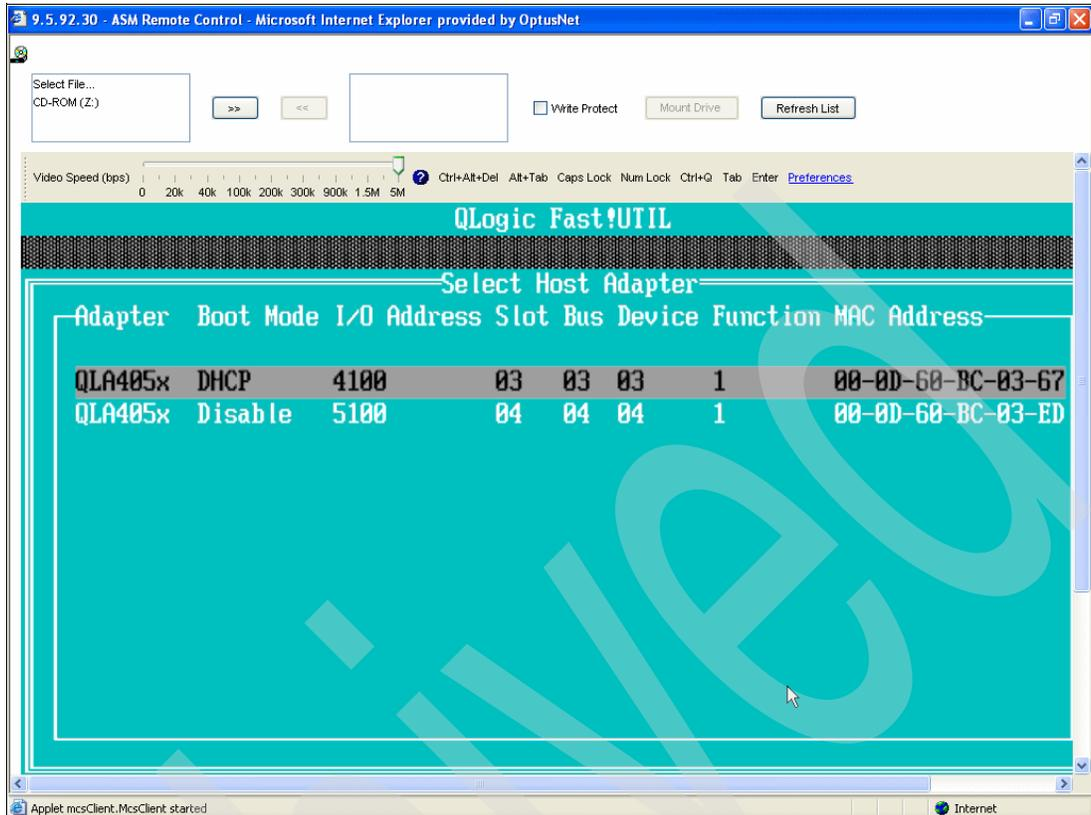

Figure 9-59 QLogic Fast!UTIL display
3. After a minute or two, you see the display shown in Figure 9-59 on page 430.
Figure 9-59 shows two initiator HBA ports that are installed in the xSeries or Blade server, their MAC addresses and other configuration information.
In Figure 9-59, the second port is the one which has just been installed. You can tell which port has just been installed from its MAC address, because you would have previously recorded the MAC address of the first port you installed in order to configure the IP addresses in the RMTSYS object for this xSeries or Blade server.
Alternatively, you can tell which port has just been installed by comparing the MAC addresses shown in Figure 9-59 with the MAC addresses printed on a sticker attached to the adapter. An xSeries HBA has a label with two MAC addresses (one for the SCSI side and the other for the LAN side) whereas a Blade HBA has a label with four MAC addresses (one for the SCSI side and the other for the LAN side of both ports). The SCSI side MAC is labelled “iSCSI” and the LAN side is labelled “TOE” (TCP Offload Engine). Note that you need to record the MAC addresses on the Blade HBA before you install it because the sticker is not visible once the HBA is installed.
In the example shown in Figure 9-59 on page 430, these values are: 4, 4, and 1 respectively. You need this information later when you specify the boot port in the RMTSYS object.
- Record the MAC address of the initiator HBA port you just installed, which is going to be your new boot port. In Figure 9-59 on page 430, the value is: 00 0D 60 BC 03 ED.
- The MAC address of the Remote LAN interface is always one hexadecimal digit less than the MAC address of the Remote SCSI interface. Note that the Remote SCSI interface is the one you see on the CTRL-Q display in Figure 9-59 on page 430.